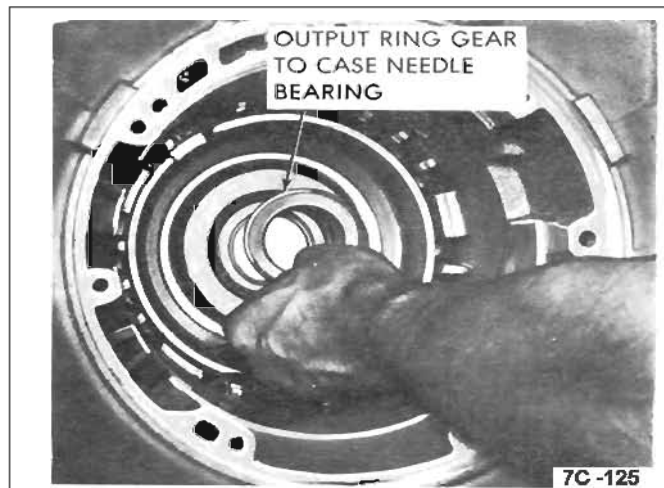

Figure 82 Needle Bearing Assembly
3. Install output ring gear to case needle bearing assembly. See Figure 82. Lip on inner race of bearing MUST point toward rear of transmission.